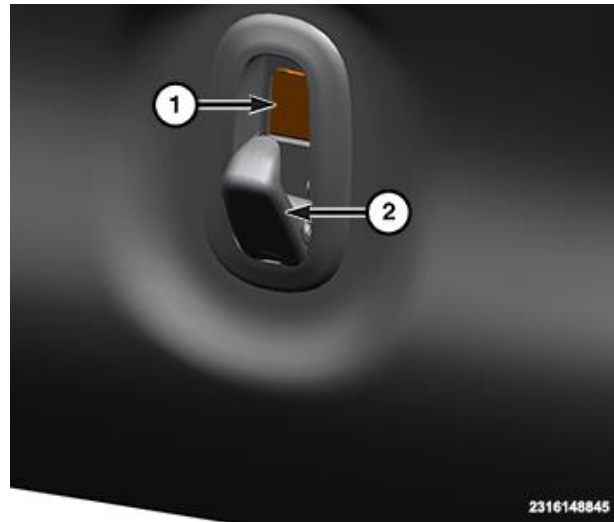

Figure 6 – Coat Hook Screw Cover
11. Open the coat hooks (2) and with a small flat blade screwdriver remove the screw covers (1) (Figure 6).